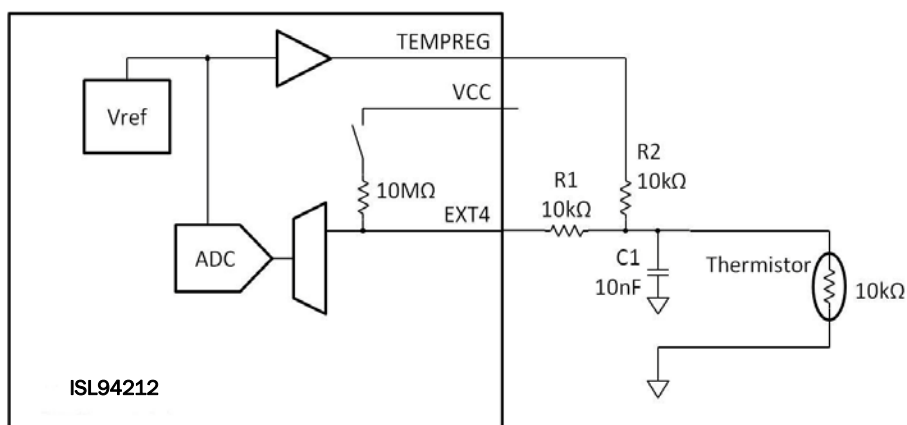

FIGURE 61. CONNECTION OF NTC THERMISTOR TO INPUT EXT4
The arrangement of the external inputs is shown in Figure 61 using the Ext4 input as an example. It is important that the components are connected in the sequence shown in Figure 61, e.g., C1 must be connected such the trace from this capacitor's positive terminal connects to R2 before connecting to R1. This guarantees the correct operation of the various fault detection functions.
The function of each of the components in Figure 61 is listed in Table 52 together with the diagnostic result of an open or short fault in each component
**TABLE 52. COMPONENT FUNCTIONS AND DIAGNOSTIC RESULTS FOR CIRCUIT OF FIGURE 61**